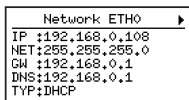

fig. 3: Network ETH0
- 1.3 Open the Embion EMS controller menu by pressing the  button and navigate to the "Network ETH0" ^(fig. 3) page by using the  and  buttons.